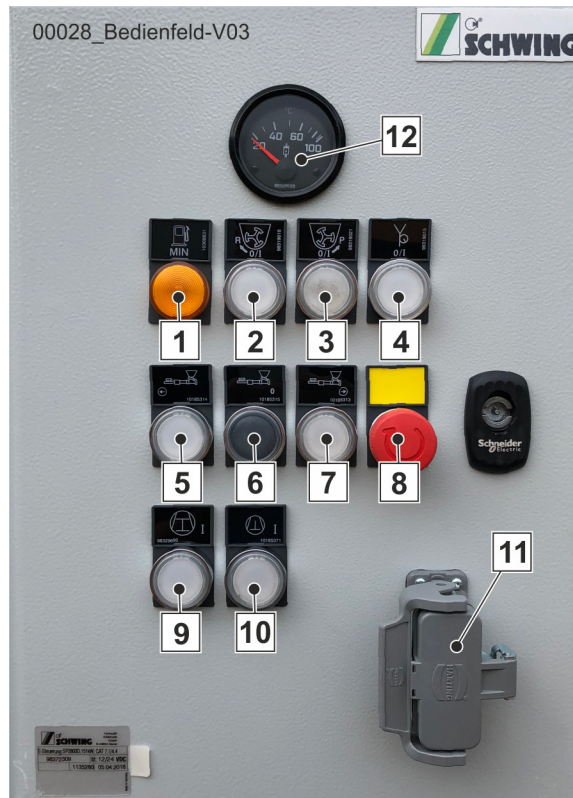

Fig. 91 Control panel
- Switch on the water pump using the button (9) (**Fig. 91**).
Switch off the water pump by pressing the button (9) (**Fig. 91**) again.